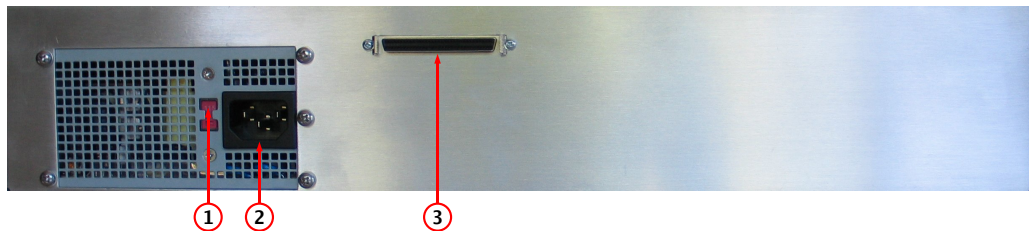

Figure 3: Rear panel features
WARNING: Before connecting power to the unit make sure the voltage selection switch (Fig. 3, item 1) is in the correct position (115 or 230 V).
1. Configure voltage selection switch (Fig. 3, item 1). Mains supply requirements for the iGp are listed in Table 4;
8. Using the supplied 68-pin GPIO cable connect the iGp interface (Fig. 3, item 3) to the GPIO connector on the iGp;